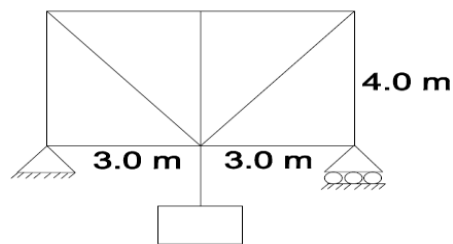

Figure 1
- B A weightless truss is subjected to a single mass 'm' as shown in Figure 1. Compute the natural period for the system in terms of m, l, E and A by representing the structure as a spring mass system.